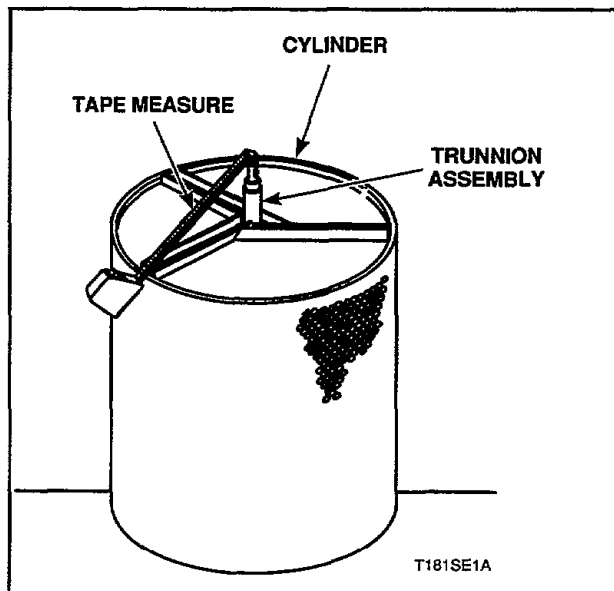

Figure 17
**IMPORTANT:** When installing trunnion assembly on cylinder, the cylinder and shaft must be leveled. Refer to Figure 17 for an example of how to check for proper alignment of the shaft and cylinder. Measure the distance between the center of the trunnion shaft and the outer rim of the cylinder as shown. If any measurement is lower than the highest point, place shim or shims (M401402) between trunnion channel and cylinder back until the measurement is equal to the highest point.